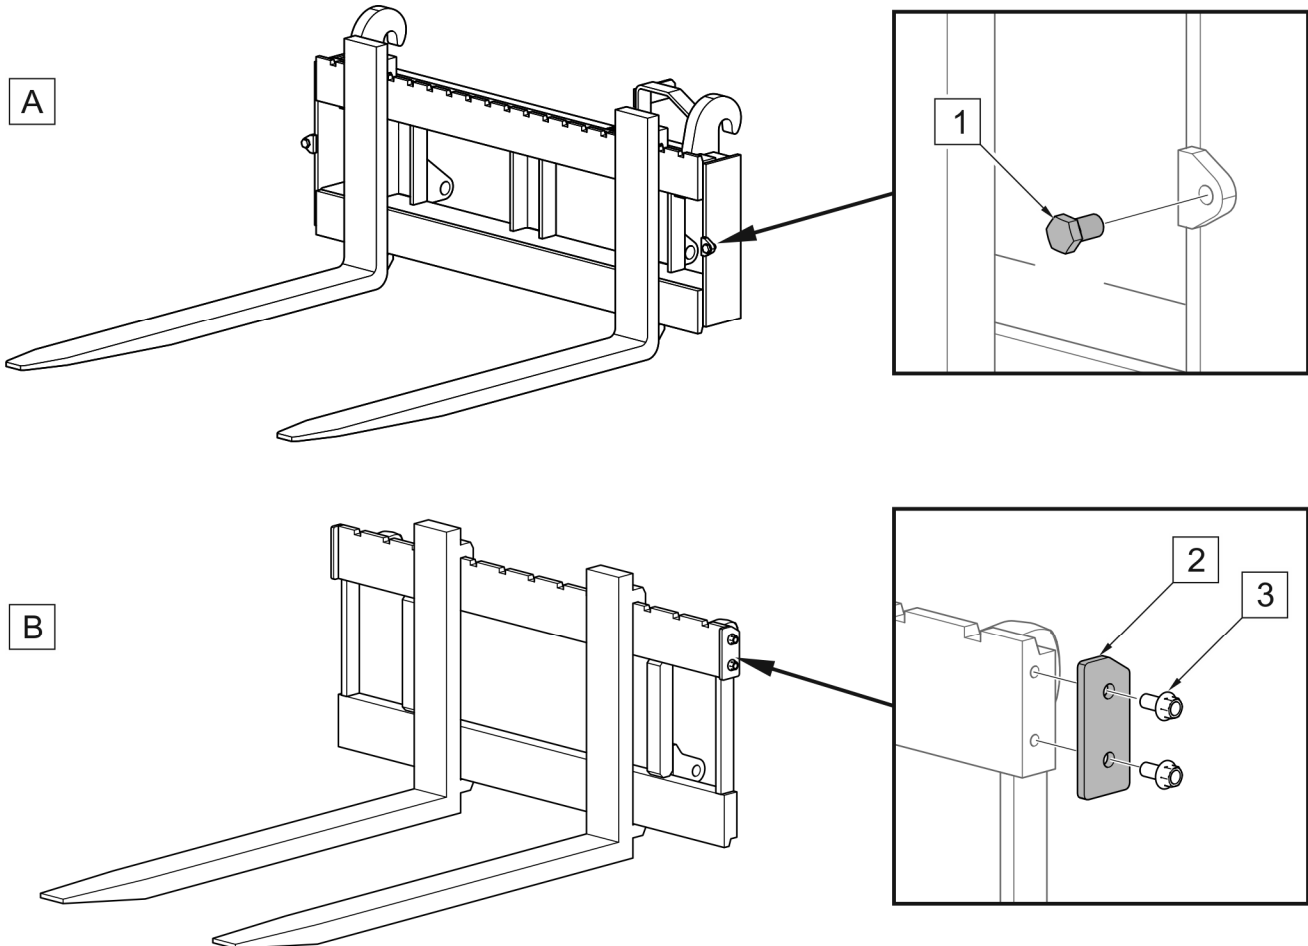

FIG. 4.3 The side stops of the fork arms
It is forbidden to operate attachments without the side stops of the fork arms (FIG. 4.3).
(1) - screw M12x20-8.8; (2) - locking plate; (3) - screw M12x25-8.8
The fork arms are secured against excessive lateral movement by means of side travel stops (FIG. 4.3) located on both sides of the frame. To remove the fork arms 35WP1 / 35WP1 / 35WP2, remove the locking screw (1). To remove the WP-25E fork arms, unscrew the screws (3) and remove the locking plate (2). The lateral stop for the arms should be installed during operation.
It is forbidden to operate attachments without the side stops of the fork arms(FIG. 4.3)